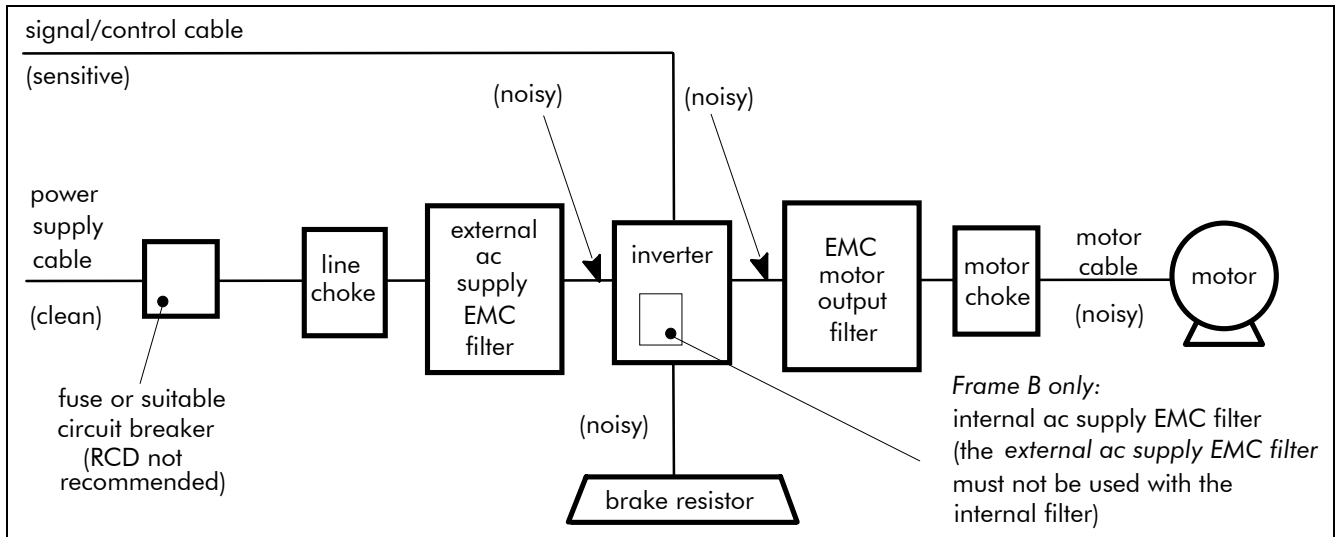

Figure 3-14 Cabling Requirements
2. Feed the motor cables into the cubicle using the correct cable entry glands ensuring the screen is connected (see Figure 3-14 Cabling Requirements, page 3-11).